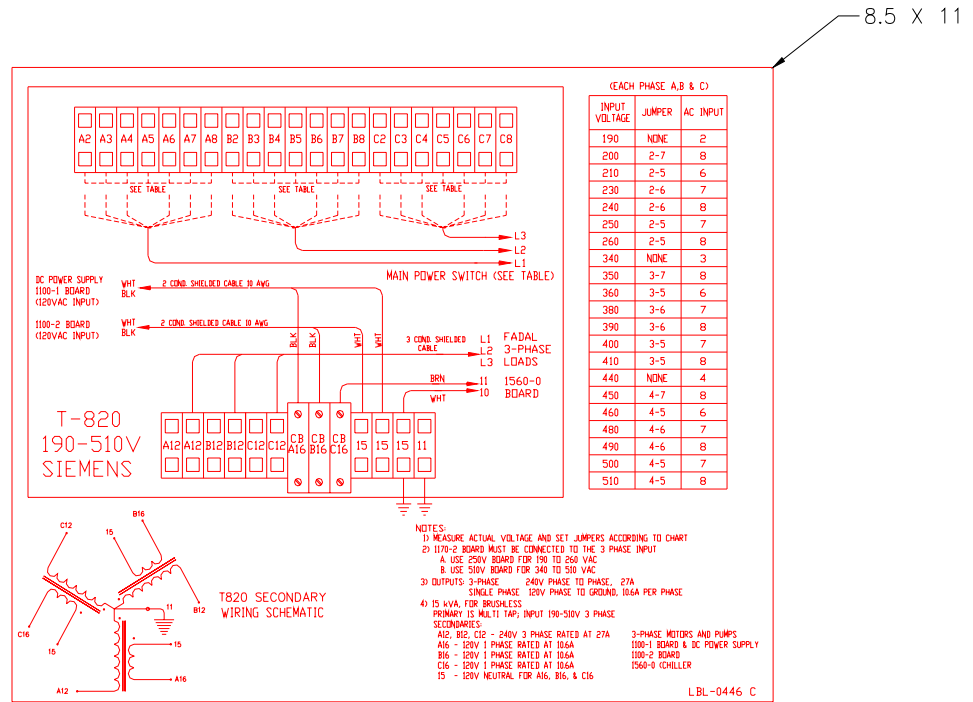

Figure 3-3:
3. Identify the jumper and AC input locations. Use *Figure 3-3* through *3-7* for three phase transformers.